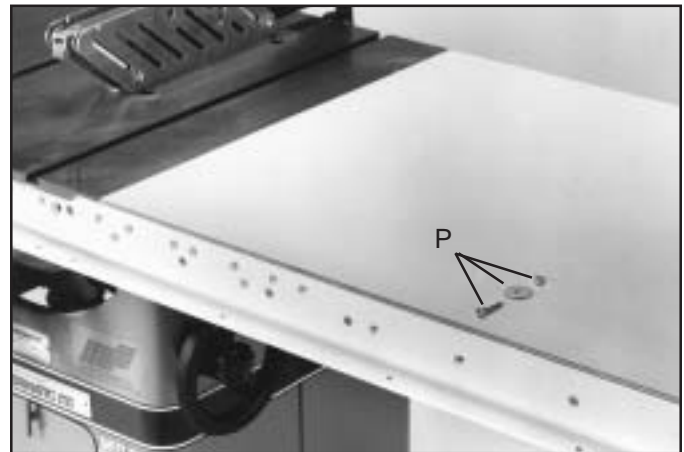

Fig.21
13. After the holes have been drilled in the front and rear table frame, fasten both front and rear rail to table Fig. 21 using the 1/4-20 x 1-1/2" long flat head screws, fender washers and hex nuts (P) provided.